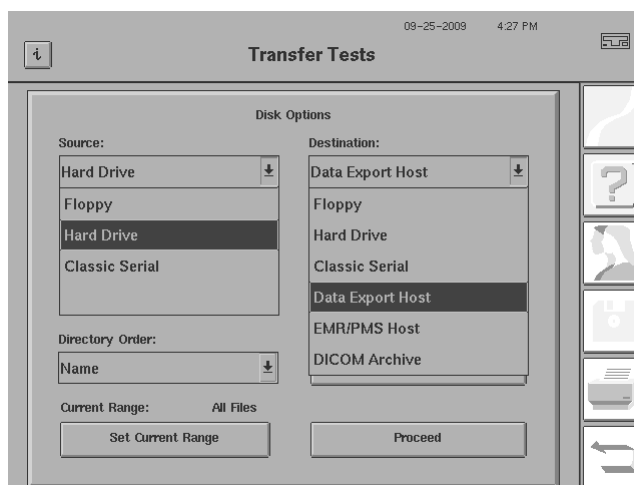

Figure 14.34 Transfer Tests Screen (with drop-down boxes open)
- 3 Select your source of test data from the Source drop-down box (Figure 14.34) as HARD DRIVE or FLOPPY.
- 4 From the Destination drop-down box (Figure 14.34) select DATA EXPORT HOST.